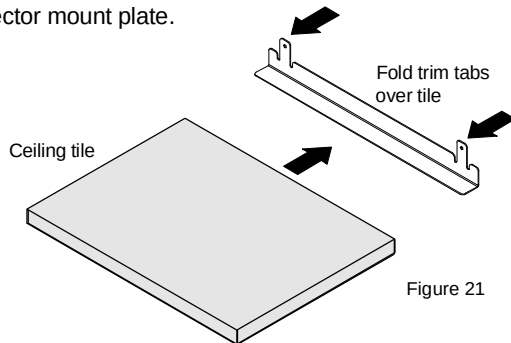

Figure 21
NOTE: If installing models CMS491C/492C cut ceiling tile to fill gaps around mounting plate. Install tile trim (P) on edges of tile that touch mounting plate, and fold trim tabs over tile. (see Figure 21). Install tile with trim attached **AFTER** installing projector mount plate.